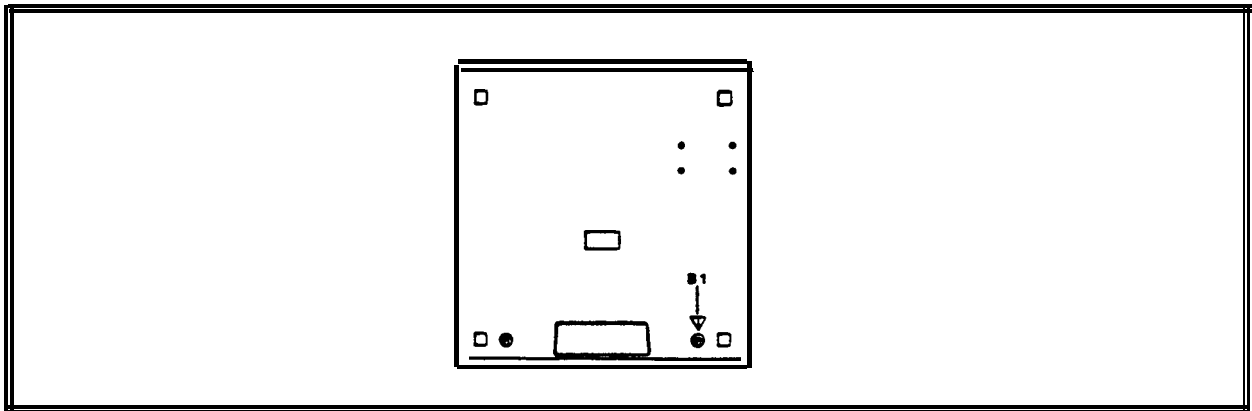

Figure 2-10: Bottom Panel
***There is a symbol on the bottom panel that indicates entry by qualified service personnel only. This symbol is marked "B 1" in Figure 2-10 Bottom Panel.***